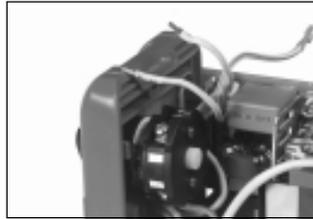

Fig.2
- Mount the mains supply lines to the main switch and connect the PE conductor (Fig. 2)